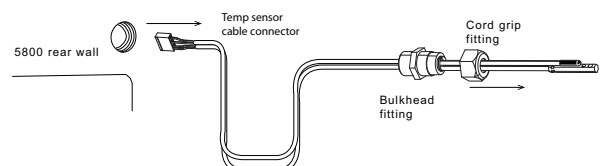

**Figure 7: Removing air temp sensor**
- Slide the air temp sensor up and out of its plastic holder by pushing up on the bottom of the sensor (located behind the power supply plate, Figure 7).
10. Gently press the metal sensor into the plastic holder behind the power supply plate until it snaps into place (Figure 7).